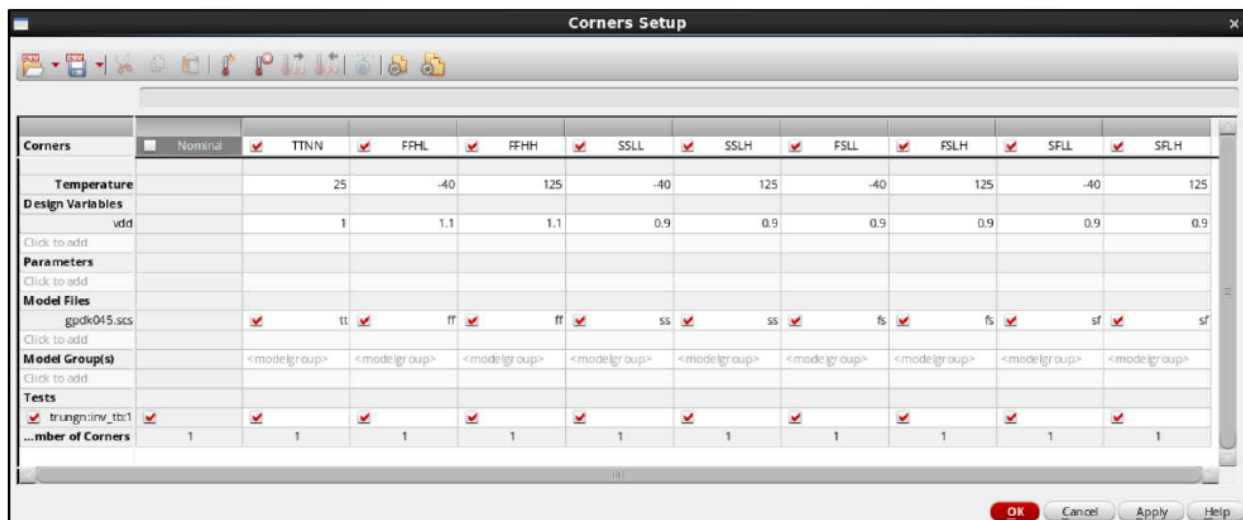

Figure 8. Setup corner
- You can create some other corners to consideration as **Figure 8**.
- Please provide the schematic and testbench here (Capture setup corners as Figure 8).